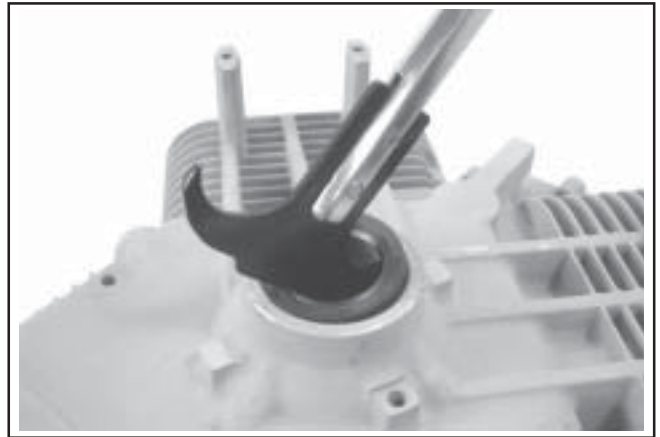

Figure 9-63. Removing Oil Seal.
1. Remove the oil seal from the crankcase. See Figure 9-63.